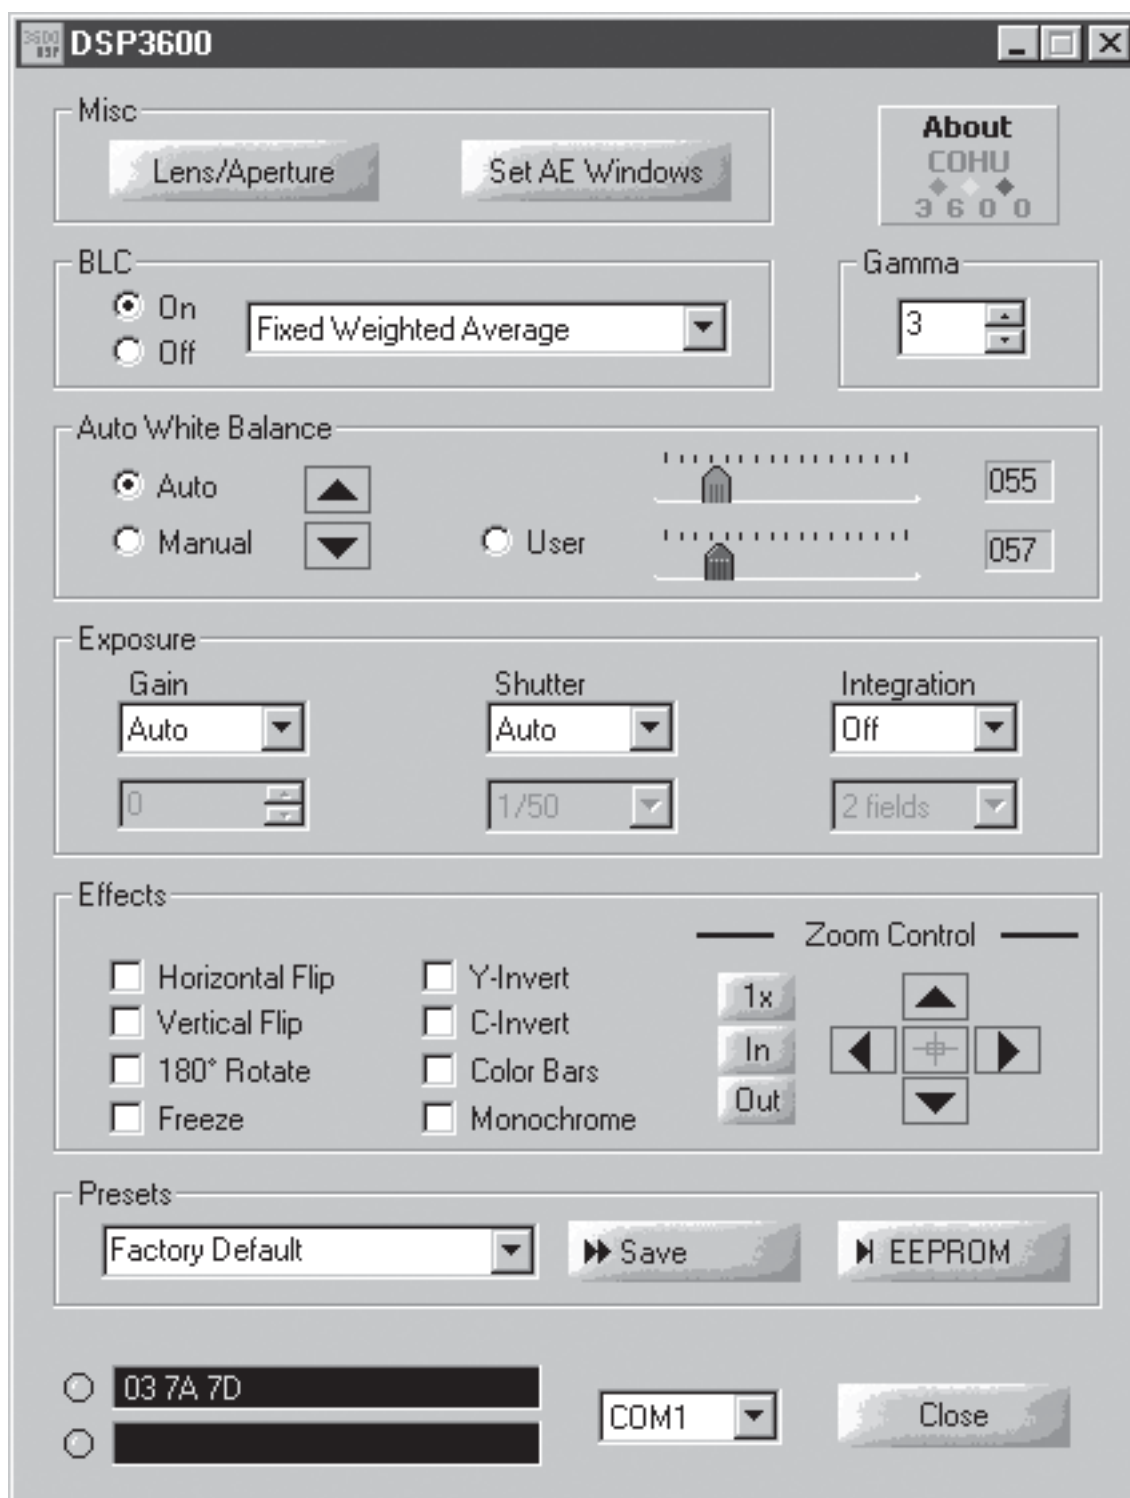

Figure 13. DSP3600 “Home” Screen
Figure 13 shows the opening window of the 3610 Graphical User Interface (GUI). Most control functions are performed from this window, but two other windows accessible from the Misc area also perform important functions:
3.1. DSP3600 GUI Home Screen (figure 13)
Figure 13 (DSP3600) is the primary control window where all the various functions are accessible. Clicking various buttons in this window causes drop down menus to appear (figure 16). Table 7 lists the various functions and gives a brief description.